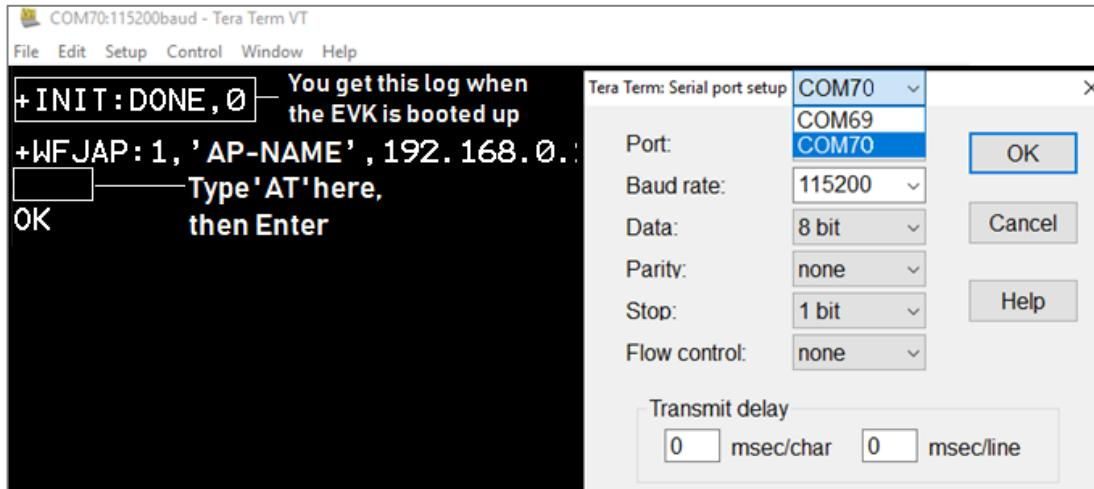

Figure 33: Initial Setup to Get Started with AT Command
- 5. Select **Setup > Serial Port** and configure the UART port with the parameters as shown in Figure 33. Select the higher COM port number as discovered in step 2.